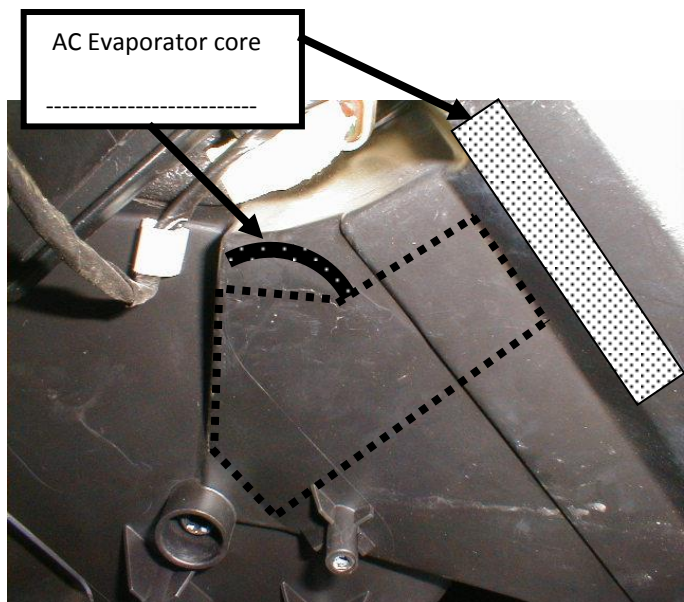

Fig 2.
4. Fig 2. and Fig 3. show the bottom of the heater box and the pattern that will be cut into the bottom of the box.
Fig 2. shows the location of the AC Evaporator core and an internal plastic arc structure that is molded into the inside of the box. When cutting with the Dremel tool, you have to make sure that the blade is pointed straight up when cutting the top of the pattern where the AC core is located. You have plenty of room for the cut, but if you tilted the blade toward the core, it is possible to create damage. The internal structure is just a curved structure that helps divert air through the blend door. Cutting it would not have a serious effect on the operation of the system, but it does make it hard to remove the cut out flap. Neatness doesn't count since the cutout will be replaced and covered with tape.